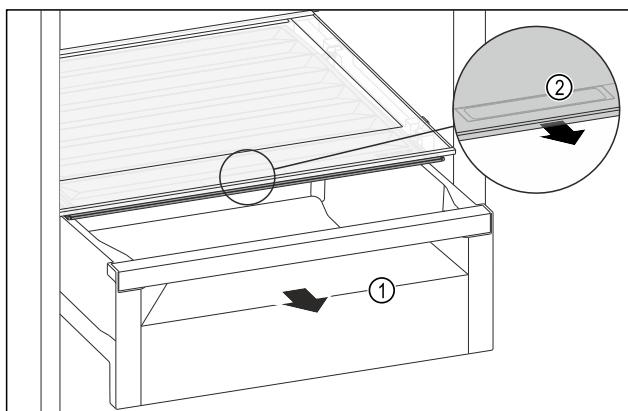

Fig. 116
- ▶ Pull out the drawer Fig. 116 (1).
- ▶ Grasp the recessed grip Fig. 116 (2) on the compartment lid and pull the compartment lid forwards at the same time.